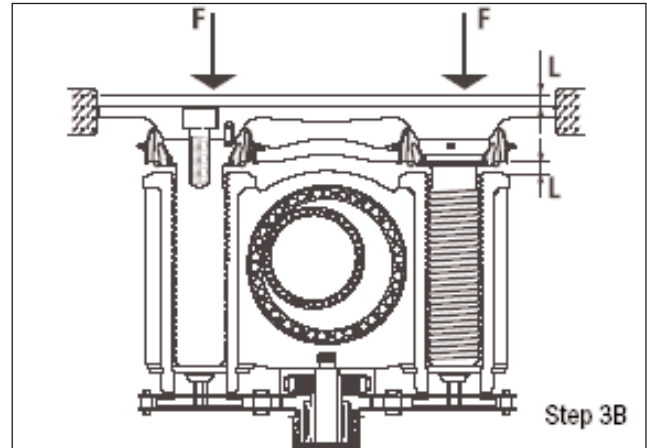

Fig 1.9
k) Sleeve rotation unscrews the piston. This increases the length 'L' between the piston and the sleeve which reduces the stroke towards the rotor to bring the pads into contact. (Fig. 1.9).